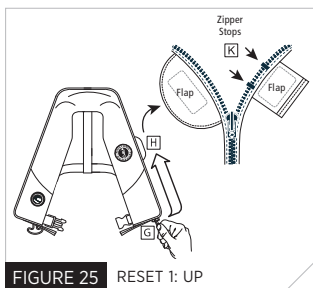

FIGURE 25 RESET 1: UP
5. Mustang Survival uses advanced two-step zippers that can be reset. Reset 1: Pull the slider (G) to the zipper stop (K) and under the hook and loop tab (H) (Fig. 25). Ensure both zipper stops (K) are in place. Close by pulling the slider (G) in the opposite direction to the end of the zipper (Fig. 26). Ensure that the inflatable cell does not get caught by the zipper when closing.